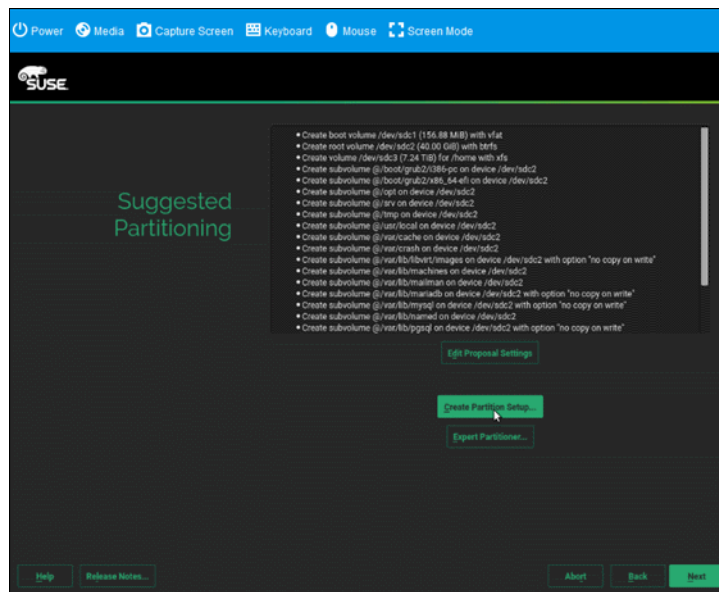

Figure 6-49 Partitioning option
16. From the following screen, select **Create Partition Setup** as shown in Figure 6-49.